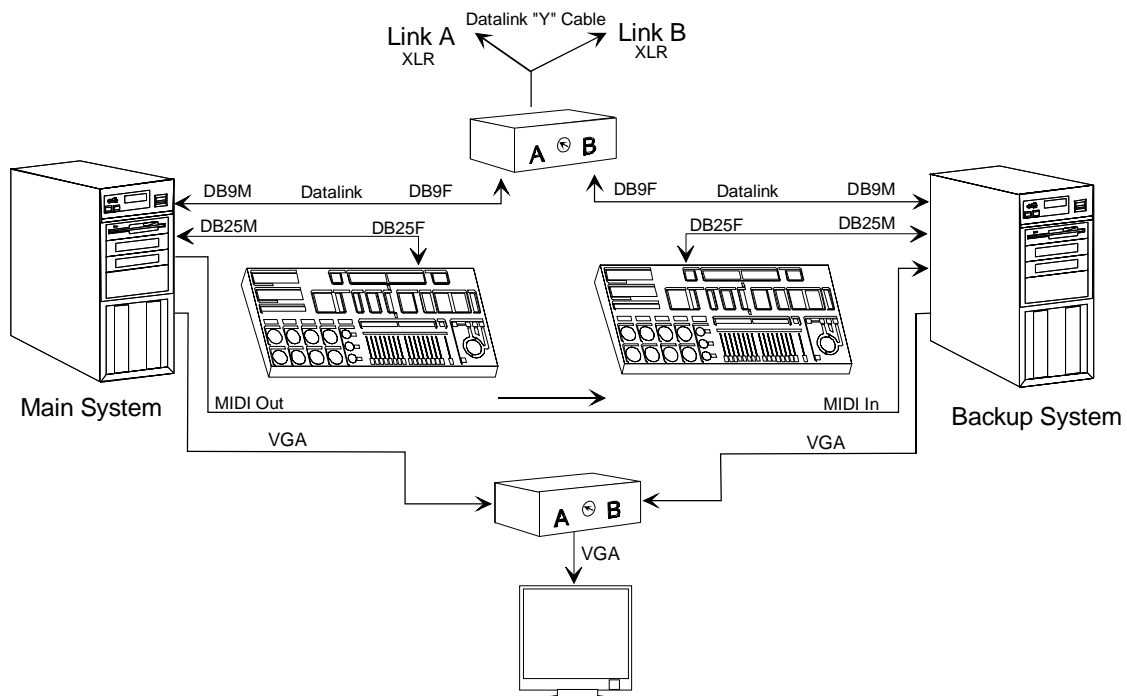

Figure B.4. Complete Redundant System
- Open an identical copy of a show on the main and backup system. Figure B.4 shows the redundant system with a redundant monitor system (accomplished through an additional switchbox).
Note: if the monitor is also on a switchbox (Figure B.4), change it from "A" to "B" to view the backup system.